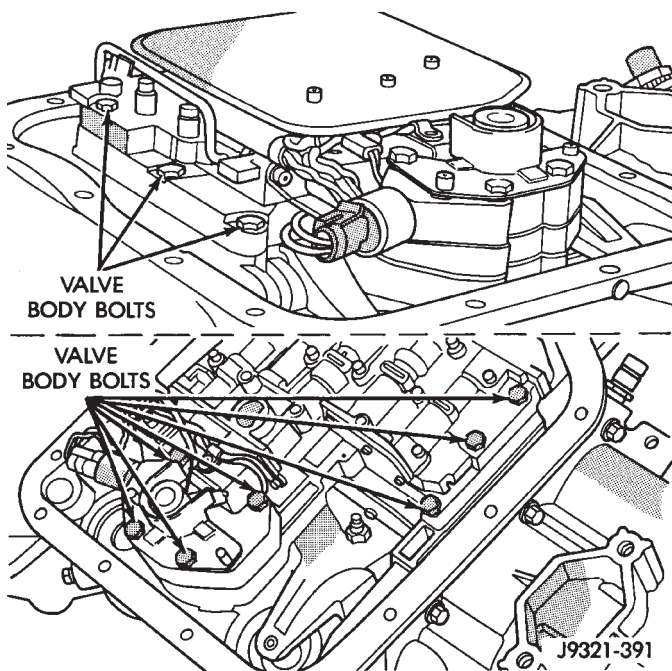

Fig. 10 Valve Body Bolt Locations
(15) Remove hex head bolts attaching valve body to transmission case (Fig. 10). A total of 10 bolts are used. Note different bolt lengths for assembly reference.